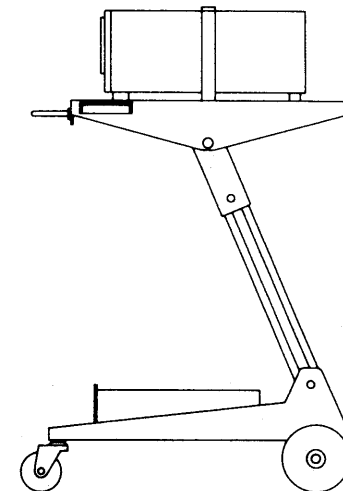

Figure 5.
- (1) Adjust the table to level by pulling the inner handle to release the lock.
- (2) Place an oscilloscope (or other instrument) on the table and fix the oscilloscope with the clamping belt. (See Figure 5.)
- (3) You may tilt the table to an angle most convenient for viewing and the oscilloscope.